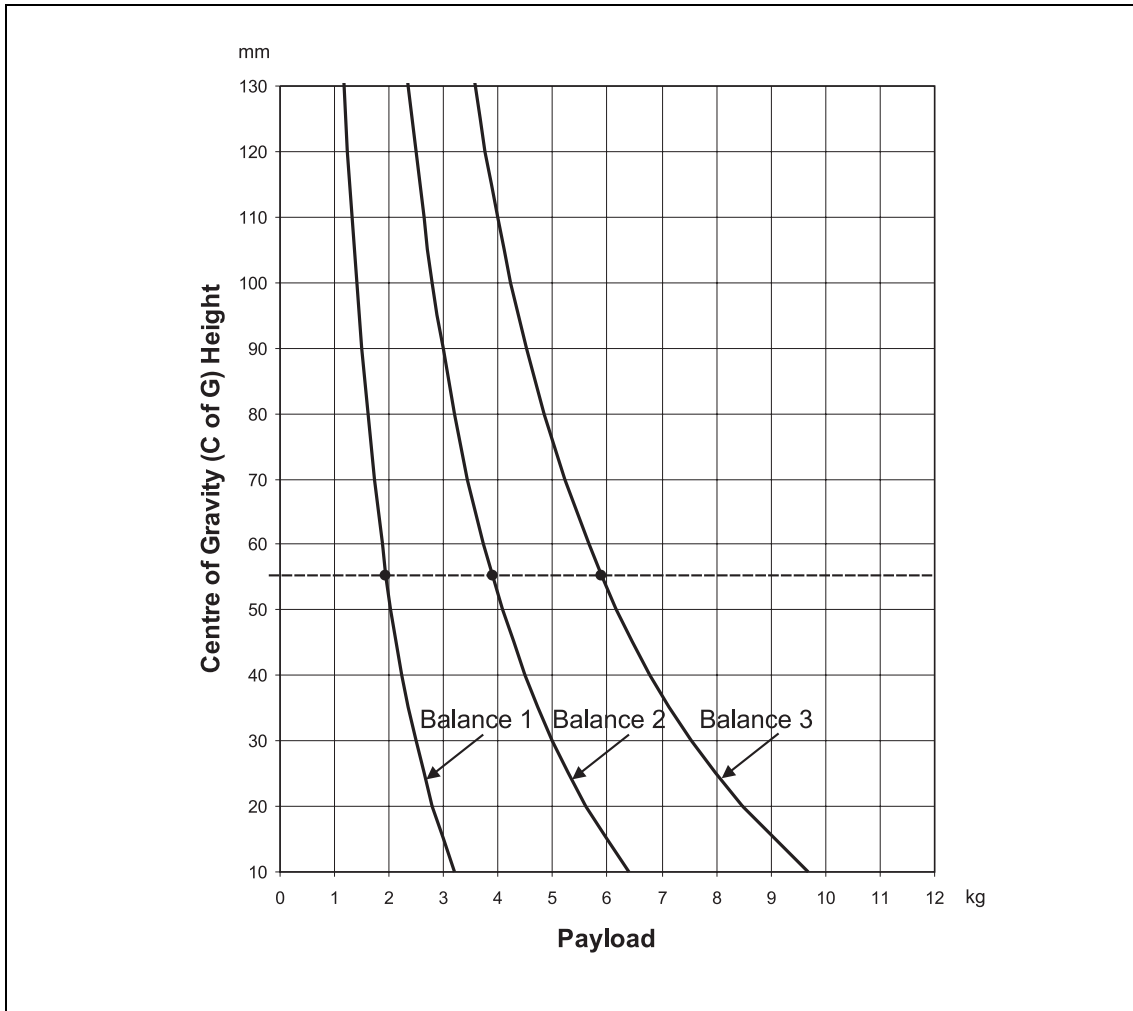

Fig 5 Balance graph
The selectable balance range in the PRO-6^{HDV} pan and tilt head is set for payloads of 2.5 kg (5.5 lb) to 6 kg (13.2 lb) at a centre of gravity (C of G) height of 5.5 cm (2.2 in.). The graph (Fig 5) shows the relationship between C of G height and payload for optimum performance.
The PRO-6^{HDV} head provides a selectable balance range, set for payloads of 2.5kg (5.5lb) to 6kg (13.2lb) at a centre of gravity (C of G) height of 5.5cm (2.2in.). The graph (Fig 5) shows the relationship between C of G height and payload for optimum performance.
The balance selector (8) allows four balance levels to be utilized. Level '0' offers free rotation of the tilt axis with no counter-balance engagement. Levels '1' to '3' offer gradually increasing balance capacity (Fig 5).